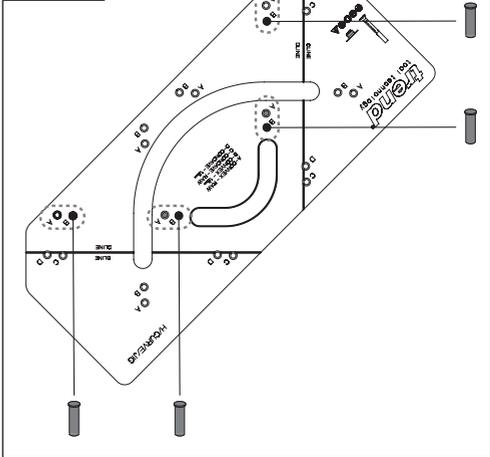

Fig. 7
- Align the location pins to the edge of the worktop (Fig. 7)